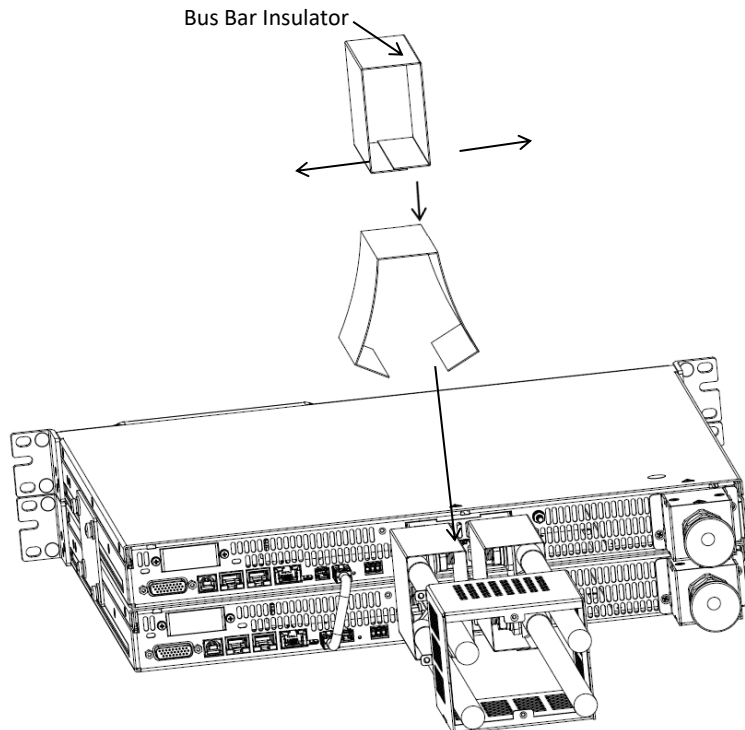

Figure 13: Two 20V-40V Units Bus Bar Insulator Assembly
- Assemble bus bar insulator prior to output cover assembly. The insulator is flexible and could be opened in its bottom side. Open the insulator and cover the bus bar by sliding it over the bus bar, from top to bottom, as illustrated in Figure 13. Repeat for the second bus bar.